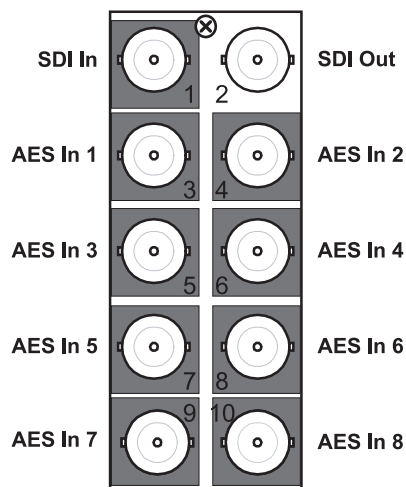

Figure 1.3 Cable Connections for the MUX-8258-A
- **DFR-8310 series frame** — The **8310AR-030** Rear Module is required. The MUX-8258-A is also compatible with the DFR-8310-BNC frame (with the cooling fan option installed). Each rear module occupies one slot and accommodates one card. This rear module provides one SDI input, one SDI output and eight unbalanced AES inputs. (Figure 1.3)
- **DFR-8320, OG3-FR, and OGX-FR series frames** — The **8320AR-041** Full Rear Module is required. Each card occupies two slots and accommodates one card. This rear module provides one SDI input, one SDI output, and eight unbalanced AES inputs. (Figure 1.3)